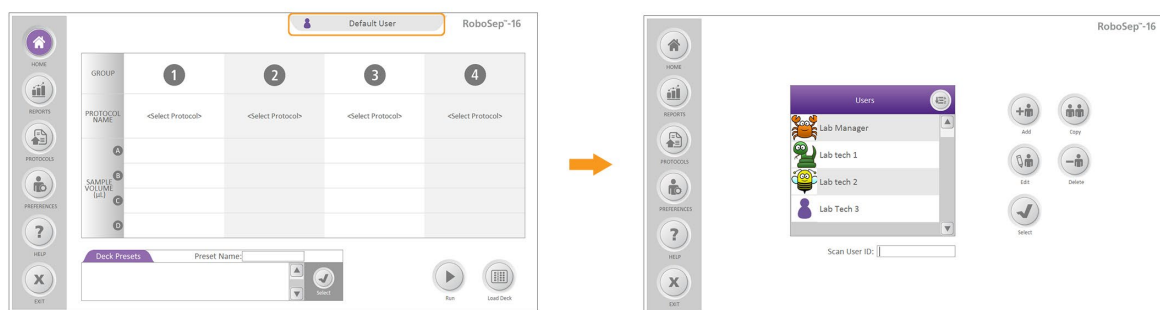

Figure 14. Accessing the User Profile Screen from the Home Screen
To access user profiles, select the User Profile tab on the Home screen. All RoboSep™-16 user profiles will be listed in the User Profile screen (Figure 14).
1. Select  [Add] from the User Profile screen (Figure 14).
1. Select the user profile you want to copy from the User Profile screen (Figure 14). The user will be highlighted in purple.
1. Select the user profile to be deleted from the User Profile screen (Figure 14). The user will be highlighted in purple.
1. Select the user profile to be edited from the User Profile screen (Figure 14). The user will be highlighted in purple.